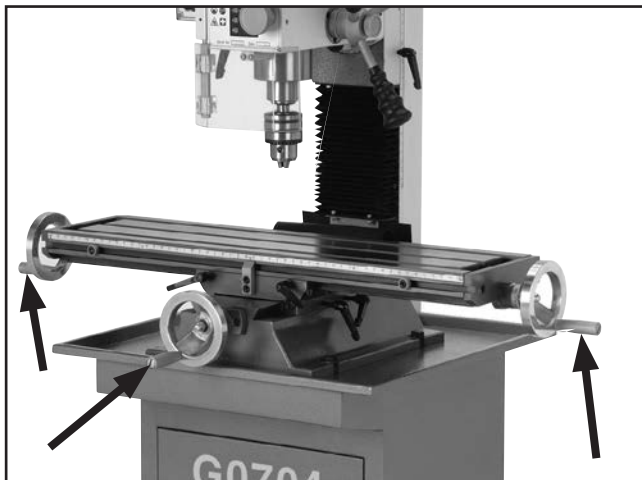

Figure 13. Table handwheel handles.
2. Use the same method to install the three small handwheel handles to the three table travel handwheels (**Figure 13**).